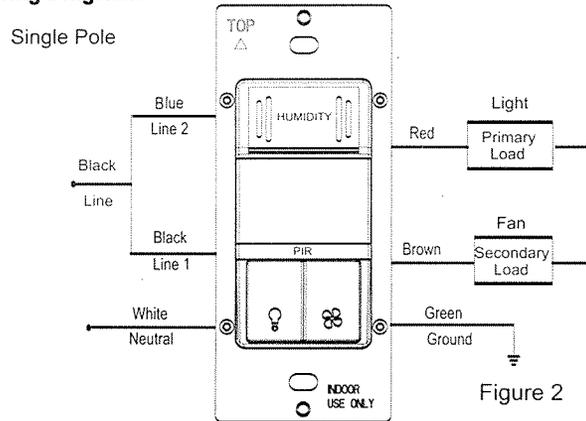

Figure 2
2. Connect lead wires as shown in the WIRING DIAGRAM (Figure 2): Connect Black and Blue lead together to Hot/Line wire, Red lead to (Light) Load wire, Brown lead to (Fan) Load wire, White lead to Neutral and Green lead to Ground.